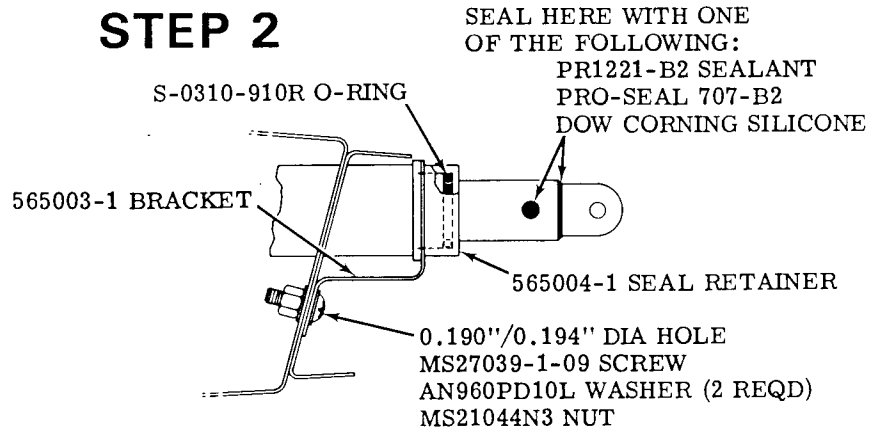

Figure 1.
4. Add a bead of PR1221-B2 sealant, or Pro-Seal 707-B2, or Dow Corning Silicone around elevator trim tab actuator as shown in Figure 1.
5. Install S-0310-910R O-ring, 565004-1 seal retainer and 565003-1 bracket on elevator trim tab actuator, drill a 0.192 (± 0.002) inch diameter hole through bracket and elevator spar and install MS27039-1-09 screw, AN960PD10L washer (2 places) and MS21044N3 nut (see Figure 1.).
6. Cover clevis joint and both ends of roll pin with either PR1221-B2 sealant, Pro-Seal 707-B2 or Dow Corning Silicone (see Figure 1.).